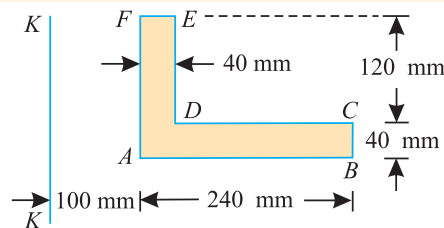

Fig. 7.12.
**Example 7.9.** Figure 7.12 shows an area ABCDEF.